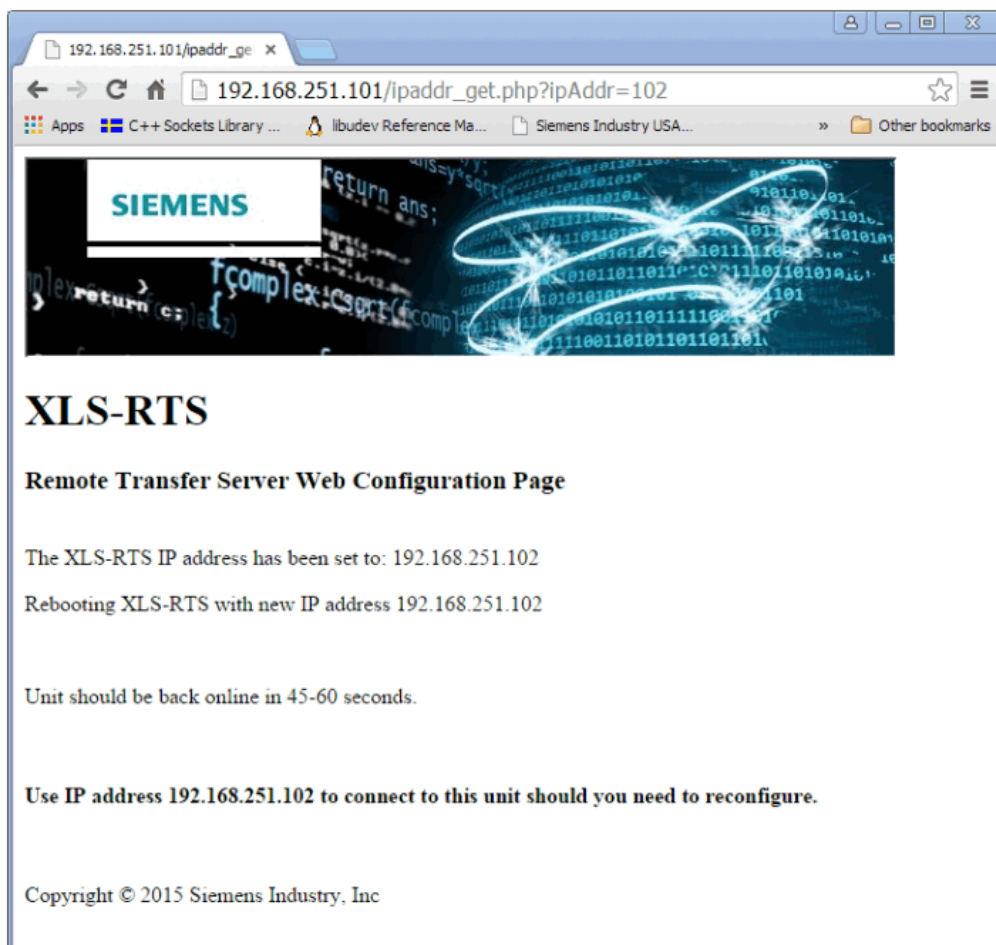

Figure 12 SNU Assy Programming Validation Page
8. The browser will load the page shown in Figure 12 (showing the IP address you entered) from the SNU Assy. The SNU Assy will take about 45-60 seconds to restart with the new IP address.